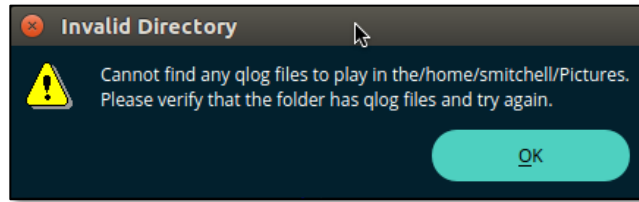

Figure 35. Visualize Tab: Invalid Directory Selected
- If you select a directory that doesn't have any QLog files in it, a pop up appears. See Figure 35. Visualize Tab: Invalid Directory Selected.